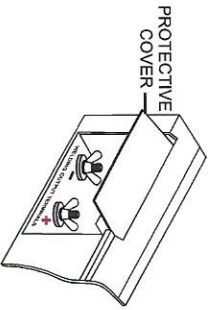

Figure 12. Protective Cover
1. Lift the output terminal protective cover (Figure 12) on the welder-generator to gain access to the welding output terminals.